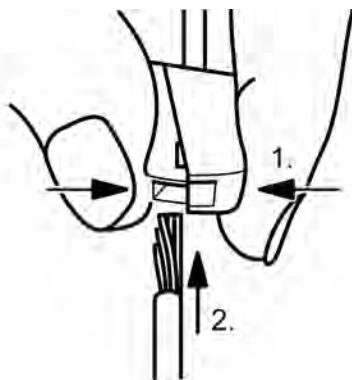

Figure 7: Connection of the fine-wire cable
- Push the terminal together on the side with the rectangular openings and connect the fine-wire connection cable of the device (figure 7).